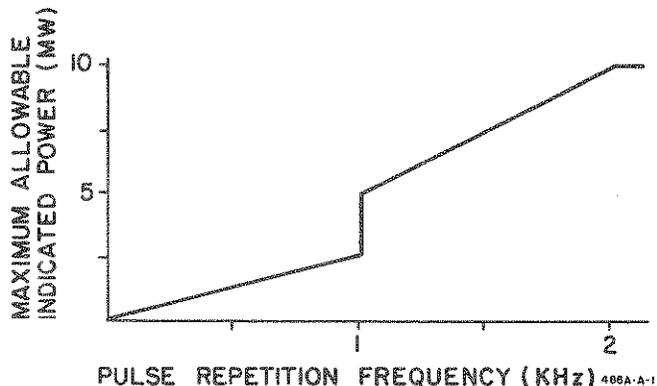

Figure 1. Maximum Power Meter Reading vs. PRF for Pulses Shorter than 250 μ sec
15. PULSE ENERGY AND PEAK POWER. In measuring pulse power, there is a limit on the energy per pulse which may be applied to the mount. For a pulse repetition frequency (PRF) less than 1 kHz, energy per pulse can be up to 2.5 Watt- μ sec; for a PRF 1 kHz and above, up to 5 Watt- μ sec (for lack of space, only the lower limit is shown on the mount name plate). However, this energy limit applies only to pulses shorter than 250 μ sec. In Figure 1, the pulse energy limit is translated into a maximum power-meter reading for any PRF. For pulses in this category, allowable peak power is inversely proportional to pulse width but should never exceed 100 Watts.